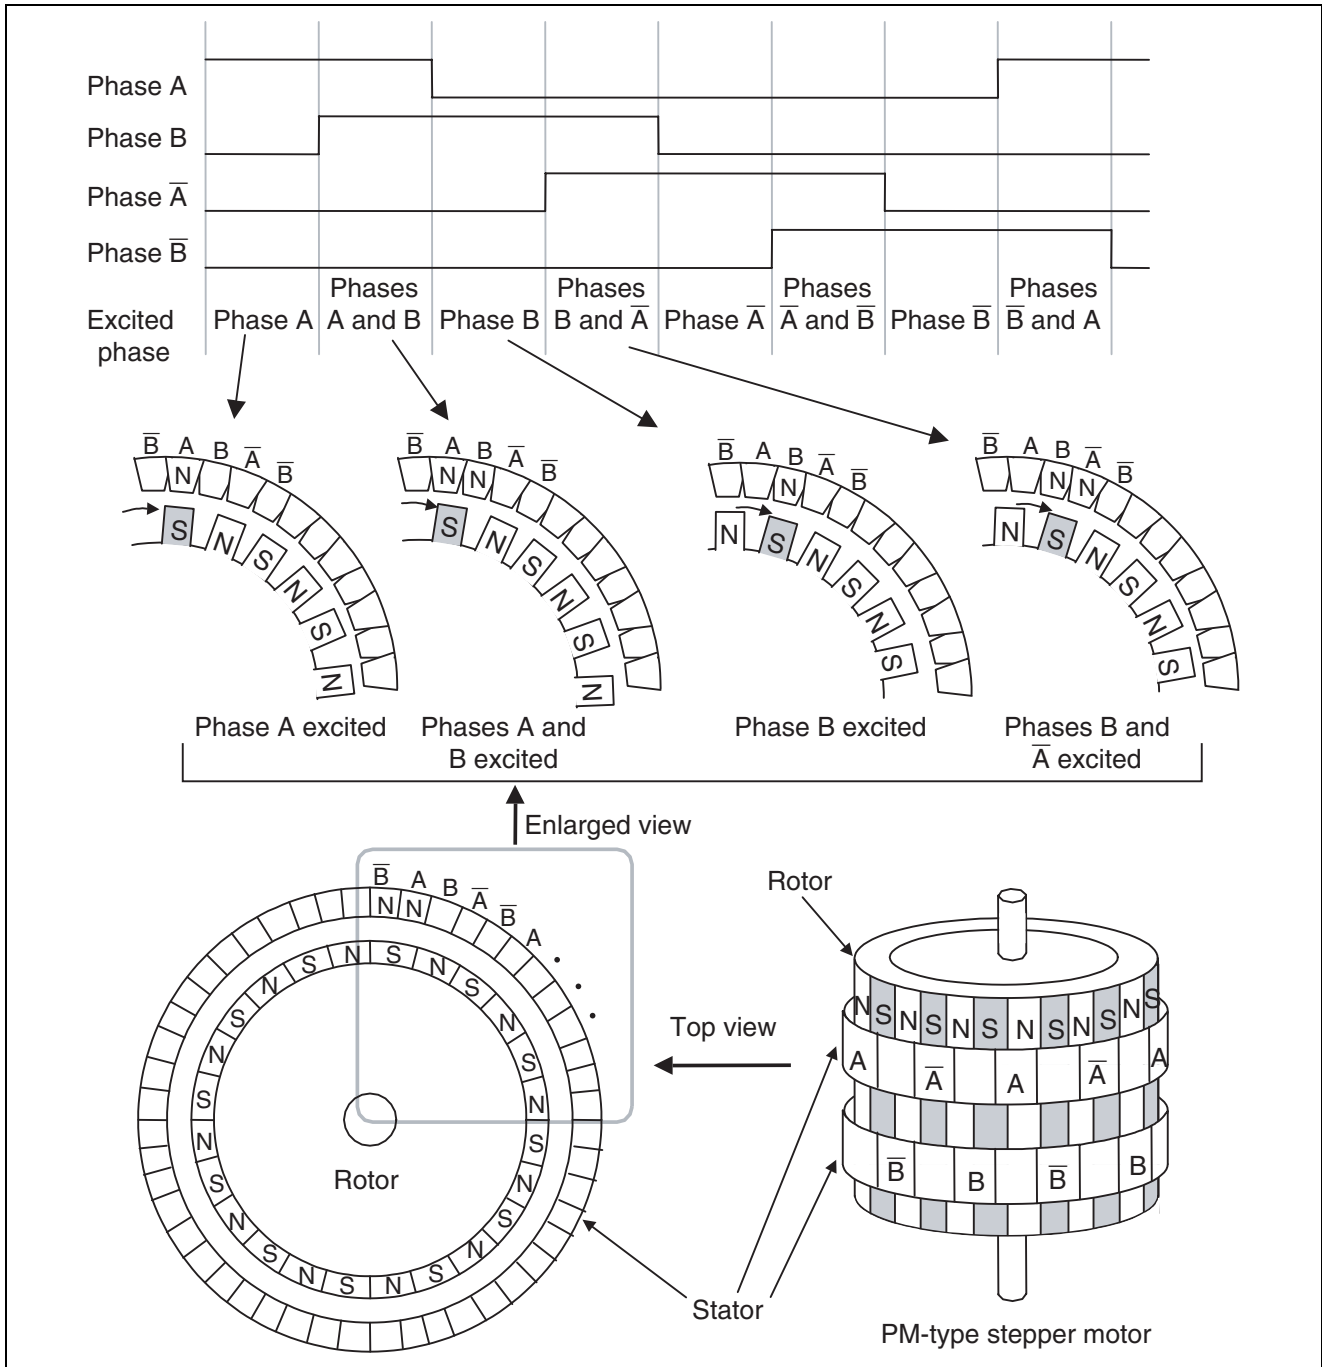

Figure 5 Example of Stepper Motor Operation
Figure 5 shows an example of operating the two-phase stepper motor with a stepping angle of 7.5 [deg./step] by using 1-2 phase excitation. The operation is outlined below.
- As shown in figure 5, a high pulse causes the corresponding phase to be excited.